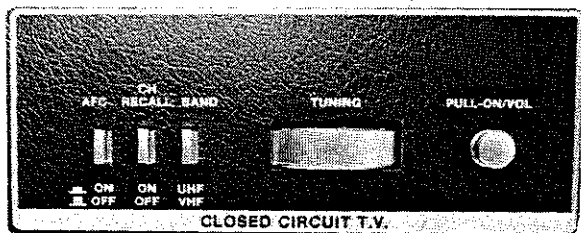

Figure 2-15. TV Controls
- VHF/UHF tuning and TV receiver controls, on the side panel above and to the left of the pilot, figure 2-15.
When the system is used for CCTV operation, the rear-facing CCTV camera transmits images directly to the monitor via coach cabling. CCTV operation can only occur when the ignition is **ON**. For normal operation, when the ignition is **OFF**, the system functions as a conventional TV receiver, via the controls shown in figure 2-15 and 2-16.